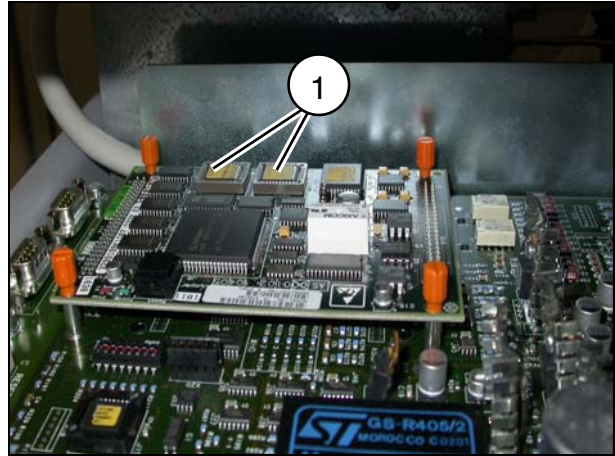

Fig. 2
- Remove PROM J7 and PROM J10 (1/Fig. 2) from the piggy-back board D332 which is located on the circuit board and replace them with new PROMs.